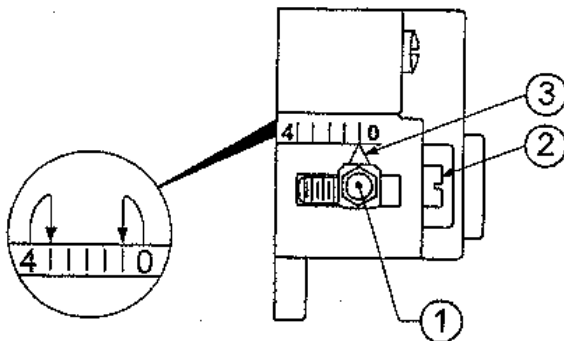

Figure 7D: Riello Turbulator Setting
- f. Turbulator Setting, refer to Figure 7D.
- ii. Loosen nut (1) and turn screw (2) until the index marker (3) is aligned with the correct index number in the Burner Setup Chart (Table 12 at the rear of this manual).
- iii. Retighten the retaining nut (1).